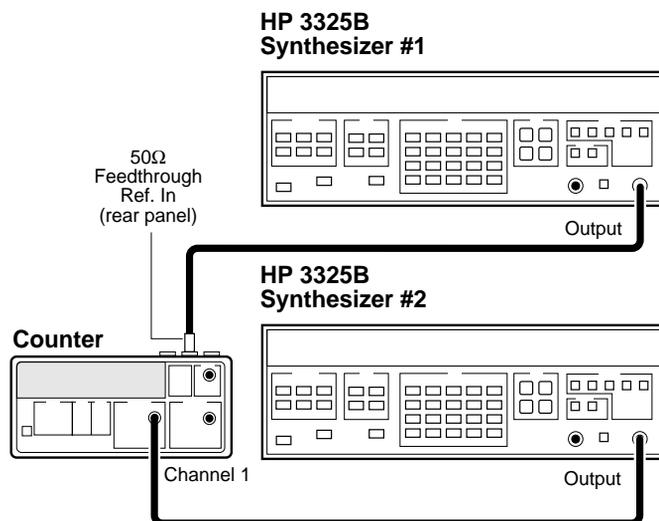

Figure 1-4. External Timebase Test Setup
- 1 Connect the equipment as shown in Figure 1-4.**